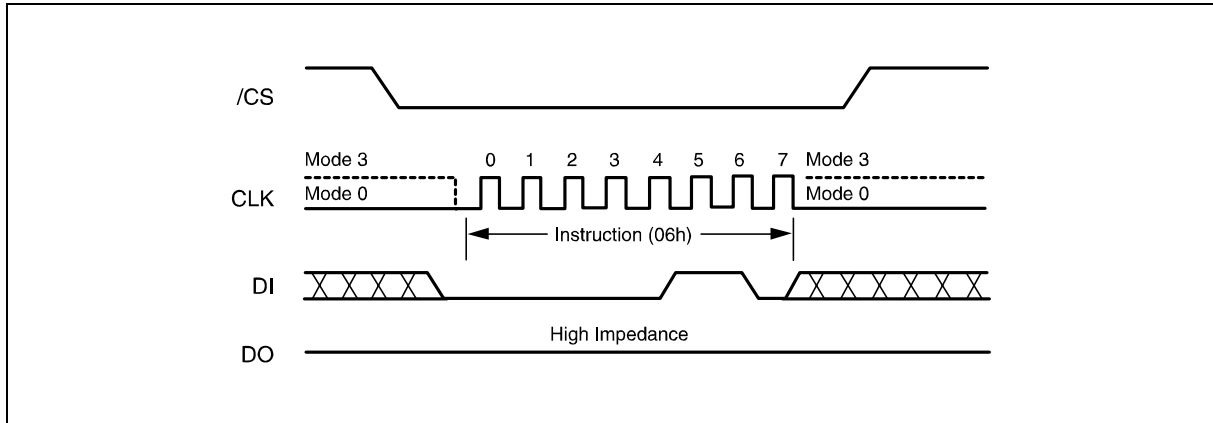

Figure 4. Write Enable Instruction Sequence Diagram
Instructions vary in length from a single byte to several bytes and may be followed by address bytes, data bytes, dummy bytes (don't care), and in some cases, a combination. Instructions are completed with the rising edge of edge /CS. Clock relative timing diagrams for each instruction are included in figures 4 through 21. All read instructions can be completed after any clocked bit. However, all instructions that Write, Program or Erase must complete on a byte boundary (/CS driven high after a full 8-bits have been clocked) otherwise the instruction will be terminated. This feature further protects the device from inadvertent writes. Additionally, while the memory is being programmed or erased, or when the Status Register is being written, all instructions except for Read Status Register will be ignored until the program or erase cycle has completed.
The Write Enable instruction (Figure 4) sets the Write Enable Latch (WEL) bit in the Status Register to a 1. The WEL bit must be set prior to every Page Program, Sector Erase, Chip Erase and Write Status Register instruction. The Write Enable instruction is entered by driving /CS low, shifting the instruction code "06h" into the Data Input (DI) pin on the rising edge of CLK, and then driving /CS high.